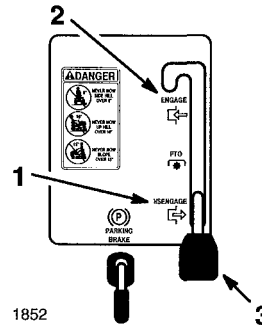

Figure 7
3. Move the blade control (PTO) to "DISENGAGED" (Fig. 7).